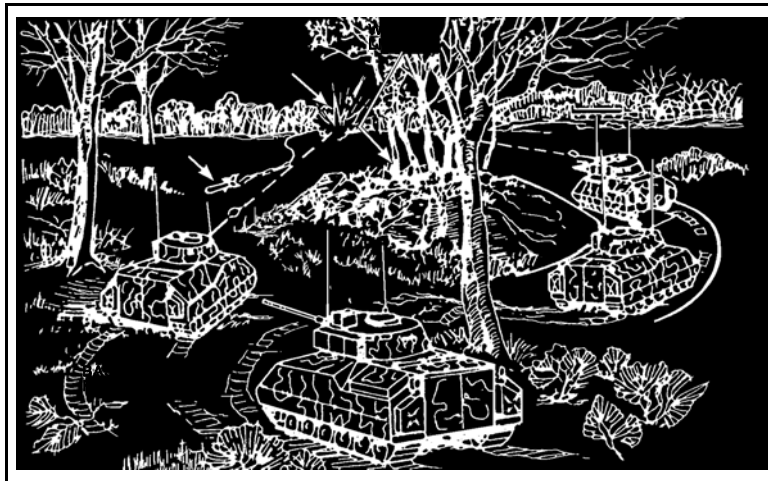

Figure 2. Point fire.
- a. Direct point fire against a specific identified target such as a machine gun or antitank guided missile (ATGM) crew (Figure 2). All weapons are fired at the target. Spreading out the base-of-fire element aids in this type of fire because the fire is directed from multiple directions.